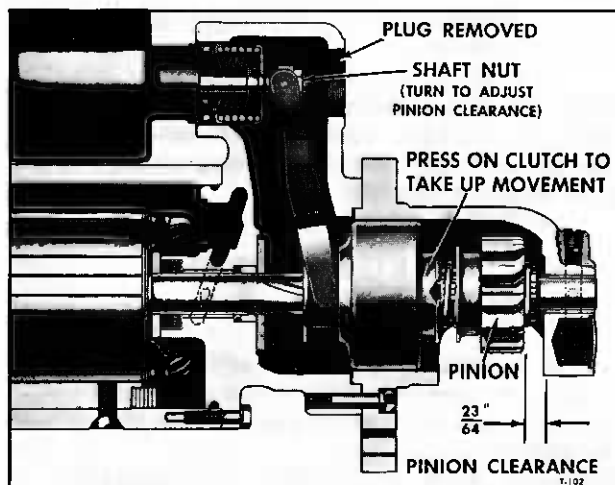

Figure 10—Pinion Clearance Check and Adjustment
2. With solenoid energized and drive clutch shifted toward the nose housing, push the pinion back toward armature to take up slack, then check clearance between the pinion and nose housing (fig. 10). Adjust nut on solenoid plunger rod as necessary to obtain the proper clearance of 23/64 inch. After correct adjustment is obtained, install access plug and gasket in shift lever housing.